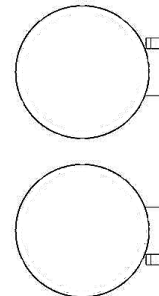

FIGURE 4
9. Unscrew all supplied hose clamps and feed the tail end of the clamp through the clips on the inside of the heatshields; the larger clamps go to the rear of the heatshields where they will rest on the muffler bodies, smaller ones to the front for the headpipes. The screw end of the hose clamp should be accessible for tightening but not visible when heatshields are mounted to the pipes, see Figure 4.